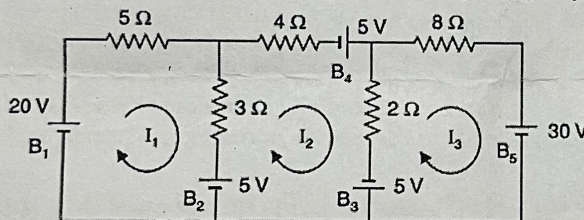

Fig.1
01. Determine the current supplied by each battery using loop analysis for the network shown in Fig.1